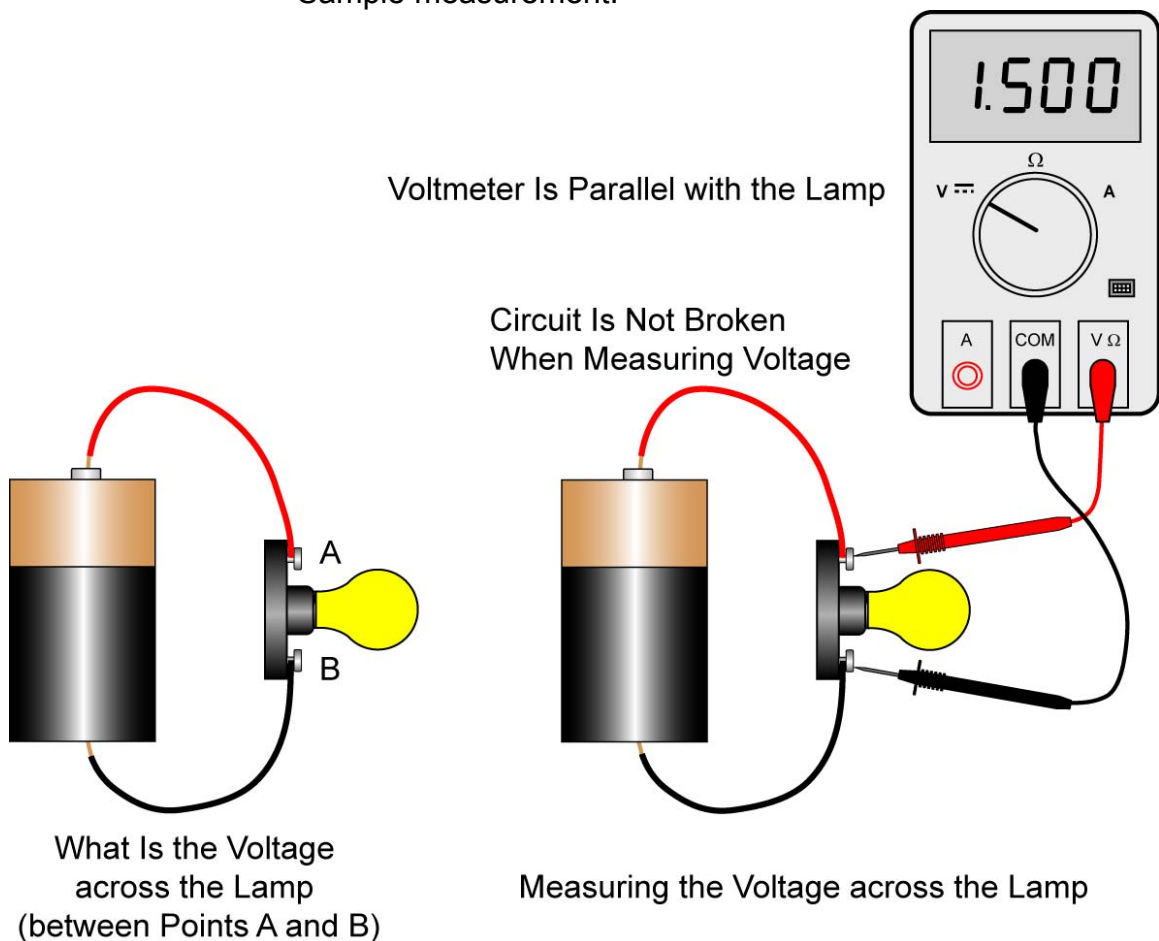

Figure 14: Measuring Voltage in a Circuit
- Voltmeters are always connected parallel with the component (across the component). The circuit is not broken as with the ammeter making the voltage measurements easier to make (Figure 14).